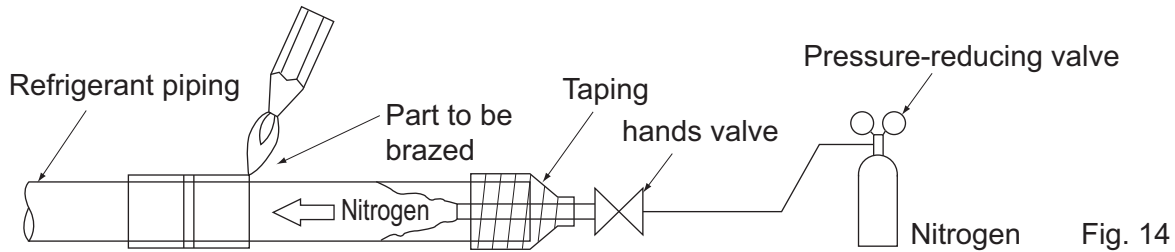

Fig. 14
- Nitrogen should be set to 0.02 MPa with a pressure-reducing valve if brazing while inserting nitrogen into the piping. **(Refer to Fig.14)**